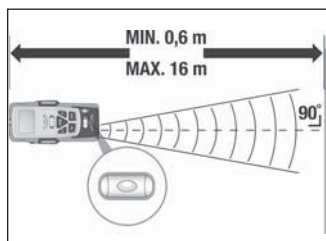

Fig. 1
2. Hold the appliance upright towards the wall to which you wish to measure the distance. The ultrasound sender/receiver 10 must be at a right-angle to the wall. For this, use the spirit level: The bubble in the glass 8 must stand between the marking lines (see Fig. 1).
The further you are from the wall, the wider is the area (a) that the Multi-Purpose Detector must measure by ultrasound (Fig. 2). Therefore take care that the Multi-Purpose Detector is always directed at a right angle towards a level surface (Fig. 1 and 3). Ensure that there are no objects positioned within the measurement area.